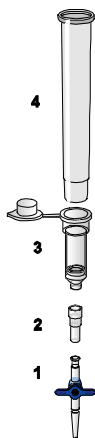

Figure 1. Assembly of components of the QIAamp DSP Virus Kit for vacuum processing of samples:
Ensure that you set up the Column Extender (EXT), QIAamp MinElute column, VacConnector (VC), and VacValve correctly (see Figure 1).
5. Centrifuge the Lysis Tube (LT) for ≥ 5 seconds at full speed to remove drops from the inside of the lid.
6. Change gloves and open the Lysis Tube (LT) carefully.
7. Add 600 μ l ethanol (96–100%) to the Lysis Tube (LT), close the lid, and mix thoroughly by pulse-vortexing for ≥ 15 seconds. Incubate for 5 minutes at room temperature (15–25°C).
8. Centrifuge the Lysis Tube (LT) for ≥ 5 seconds at full speed to remove drops from the inside of the lid.
9. Insert the QIAamp MinElute column into the VacConnector (VC) on the vacuum system (see Figure 1, page 28). Insert a Column Extender (EXT) into the open QIAamp MinElute column.